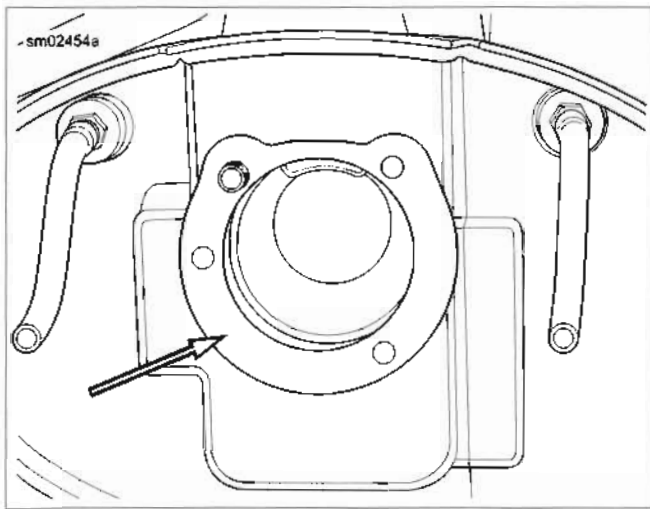

Figure 1-7. Gasket (Typical)
1. See Figure 1-7. Position **new** gasket on backplate.